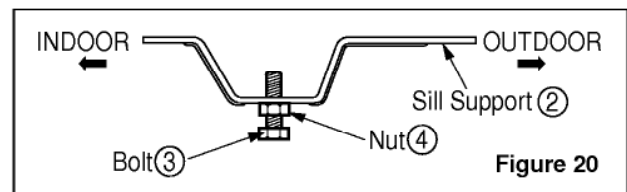

Figure 20
3. Loosely assemble the sill support using the parts in Figure 20.